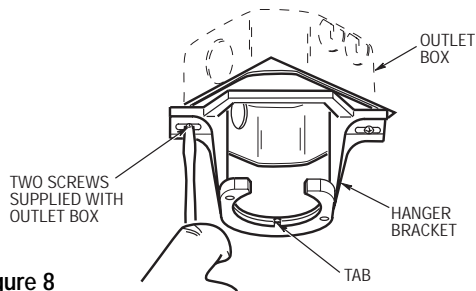
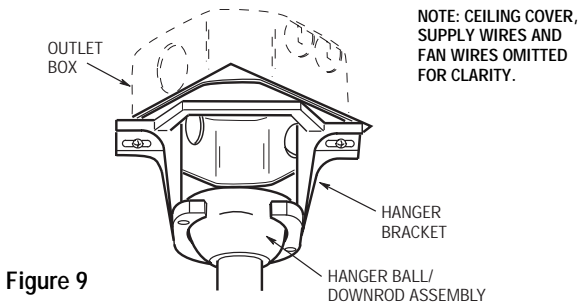

Figure 8
Figure 9
1. Securely attach the hanger bracket to the outlet box using the two screws supplied with the outlet box (Figure 8).
2. Carefully lift the fan from the foam pad and seat the hanger ball/downrod assembly on the hanger bracket that was just attached to the outlet box (Figure 9). Be sure the groove in the ball engages with the tab on the hanger bracket (Figure 8).